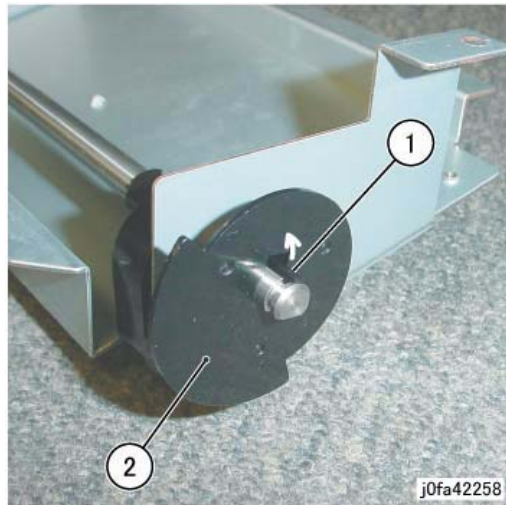

Figure 7 Removing the Actuator
- 12. Remove the Actuator (Figure 7):